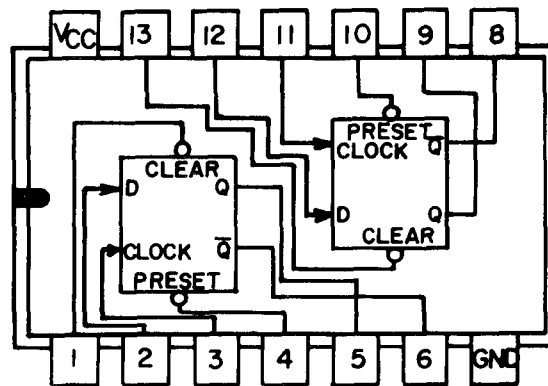

Figure 1-35. Dual D-Type Edge-Triggered Flip-Flop.
9. Dual D-Type Edge-Triggered Flip-Flop (SN5474). This flip-flop (fig. 1-35) has direct clear and preset inputs and complementary Q and Q outputs. Input information is transferred to the outputs on the positive edge of the clock pulse. Clock triggering occurs at a voltage level of the clock pulse and is not directly related to the transition time of the positive-going pulse. A low input to clear sets Q to logic 0. A low input to preset sets Q to logic 1. Clear and preset inputs dominate regardless of clock and D inputs. Table 1-8 summarizes the input-output relationships.